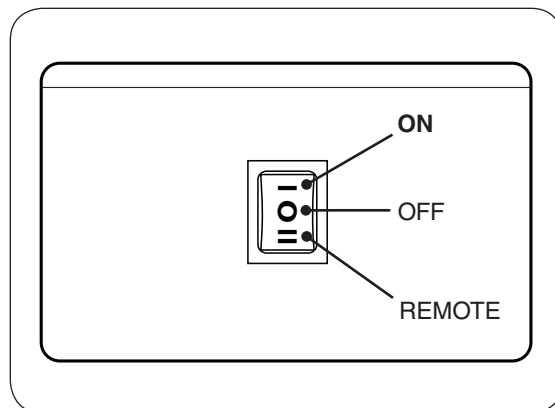

Fig. 13-1 Switch box, switch detail
1. Locate the 3-position switch on the switch box (see Fig. 13-1). Press the switch to the **ON** position.